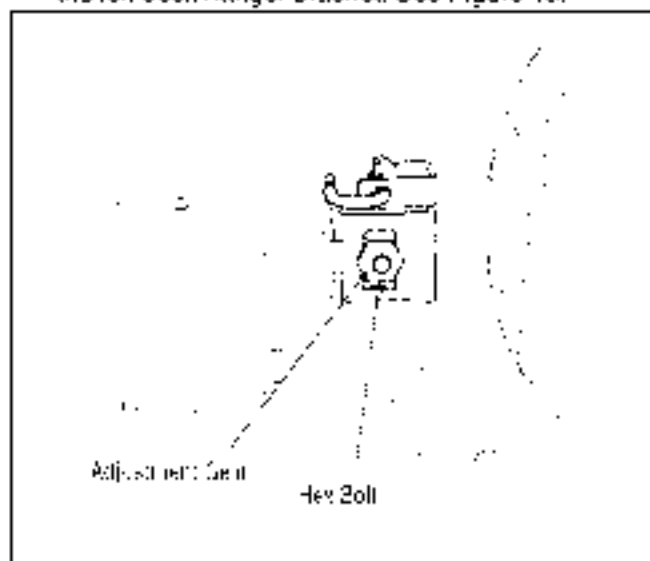

Figure 16
- Loosen, but do NOT remove, the hex cap screw on the left deck hanger bracket. See Figure 16.